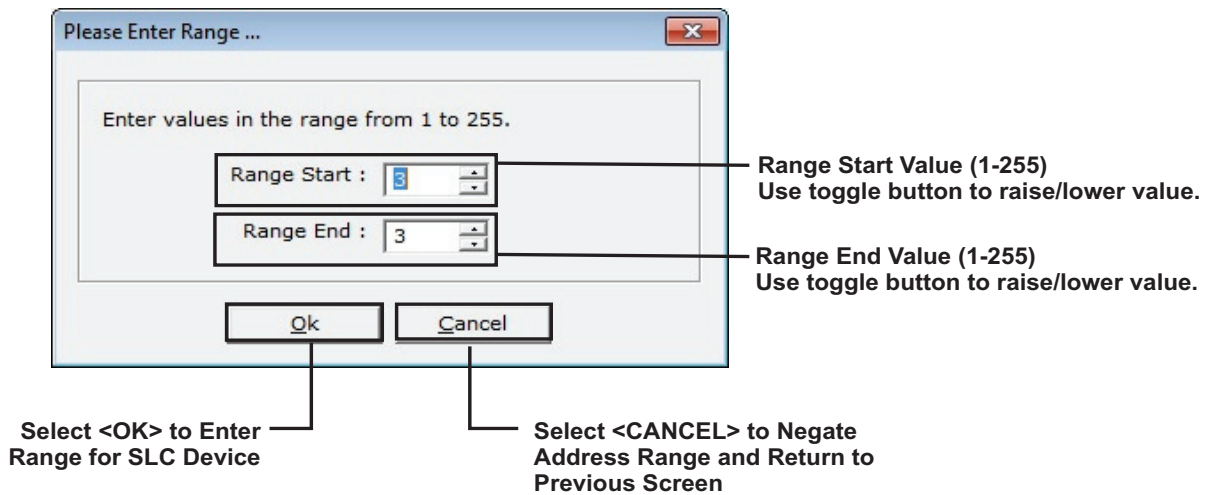

Figure 2-4. SLC Address Box Screen
2. Select the <Add Devices> button; Figure 2-4 displays.